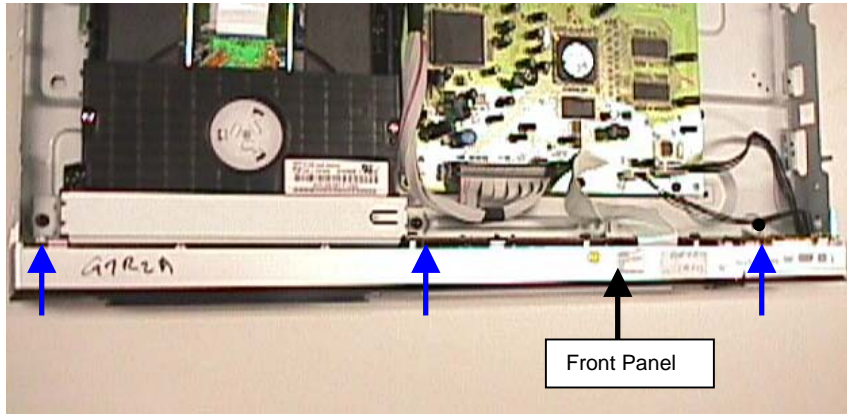
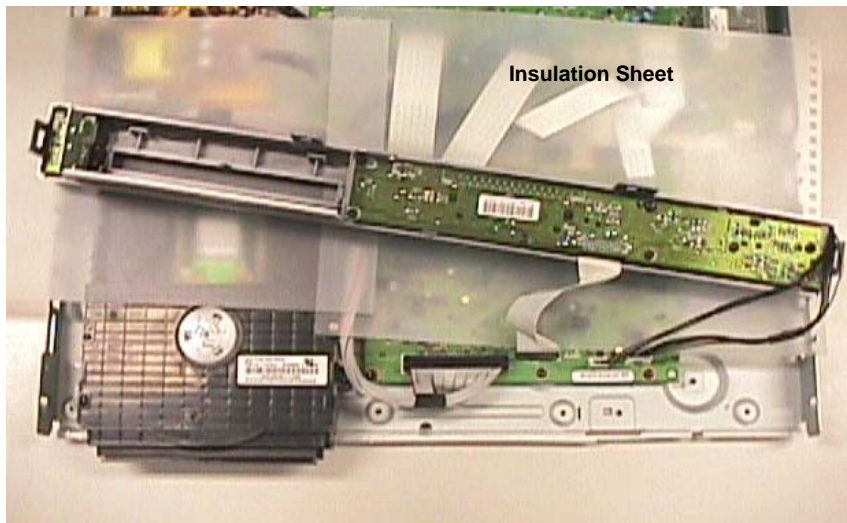

Figure 3 - detach the front panel
Figure 4 - Front Panel Service Position
- 2) Remove the screws to detach the Front Panel and loosen the Front Loader Plate 190 as shown in Figure 3. The Front Panel Service Position as shown in Figure 4.